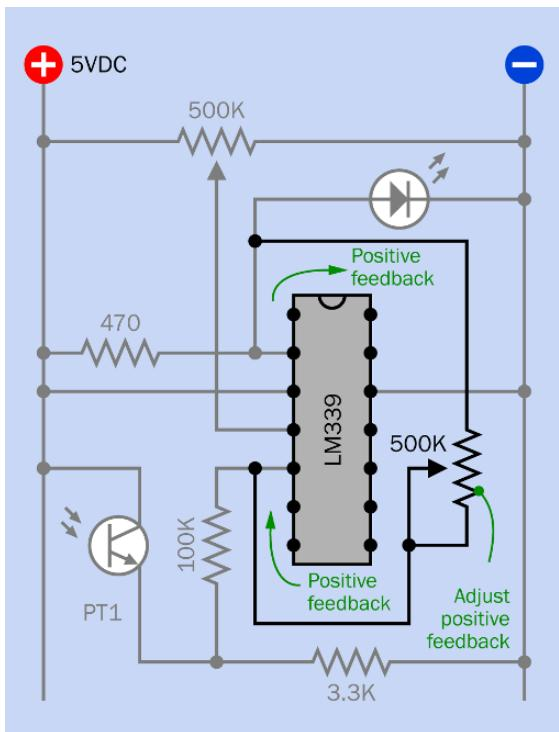
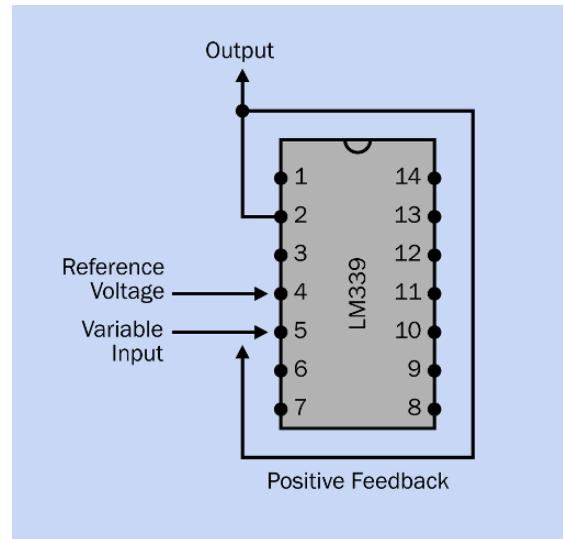
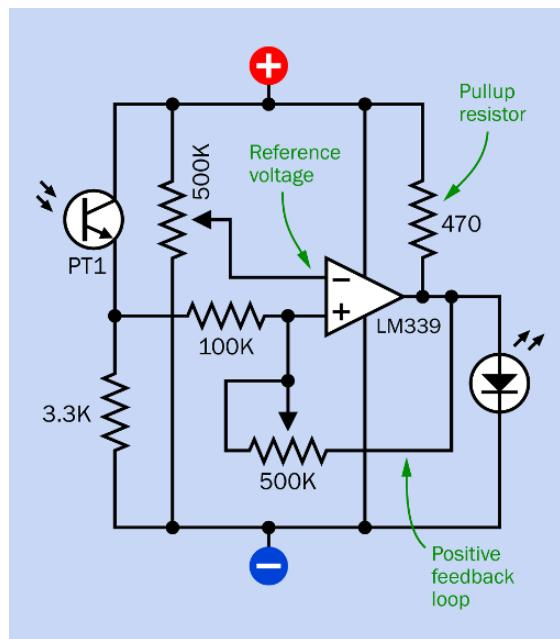

Figure 6-3. The basic comparator circuit has been modified to clean up its output, by the addition of positive feedback. Previous wiring is gray.
Figure 6-5. The basic concept of positive feedback.
Figure 6-13. A more typical layout of components in a basic positive-feedback loop using a comparator.
Figure 6-3 shows the same circuit as before, but with an additional potentiometer on the right. Figure 6-4 shows a breadboarded version of the circuit.
The basic idea of this circuit is shown in Figure 6-5. Notice that pin 2 of the comparator chip is connected back to pin 5. Pin 2 is the output (remember, it controls the LED). Pin 5 is the variable input—the phototransistor is connected with it through the 100K resistor. So the second potentiometer in Figure 6-3 is taking some of the voltage from the output and feeding it back to the input. This is the positive feedback.
- Most comparators should have their outputs connected to devices with high input impedances, such as logic chips. That kind of chip demands very little current, so you can use a relatively high-value pullup resistor, which is typically 5K. The 470Ω resistor in the schematic in Figure 6-3 is relatively low because the comparator had to drive an LED.
The schematic that I showed you in Figure 6-3 was laid out so that it would be as easy as possible for you to transfer to a breadboard. But other people don't make it so easy for you to breadboard a circuit. They tend to put positive voltage at the top, negative ground at the bottom, input on the left, and output on the right. This convention is used because the circuit is easier to understand when you look at it for the first time.
Figure 6-13 is an example of a conventional schematic using a comparator. The components and connections are actually the same as in Figure 6-3.